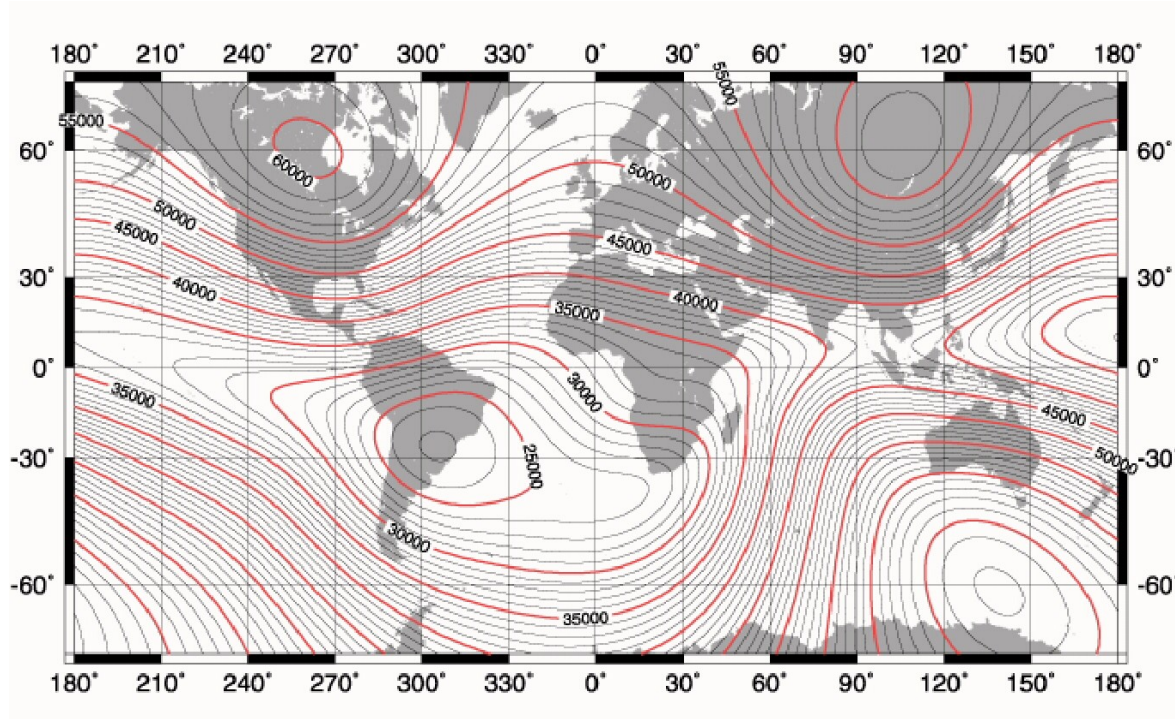

Figure 20. Magnetic Field Intensity Variation, (nT)
Usually, fairly accurate readings can be obtained if the magnetometer is tuned to be within 3,000 nT of the local magnetic field strength. The approximate magnetic field in your survey area can be obtained by examining the world magnetic map provided in Figure 20 and in the Appendix of this document. This world map is overlain with contour lines showing the regional variation of magnetic field strength with position. Simply find your position on the map and read the field strength on the nearest contour line.
- 1 Use the world magnetic map (Figure 20) to determine the approximate field strength for your location.